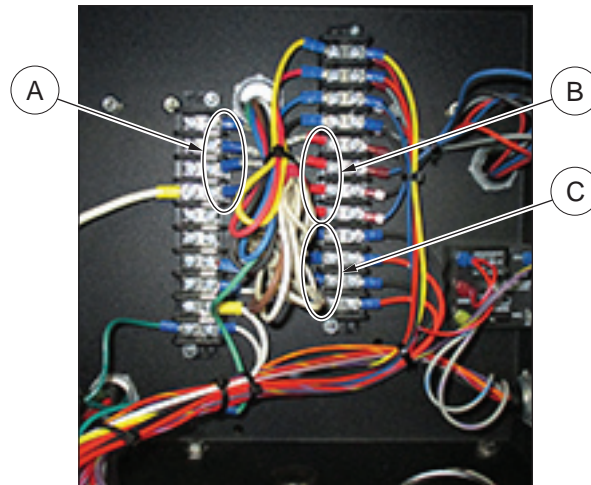

Figure 24 - Connect Transformer Wires
12. See Figure 24. Connect transformer wires, as shown.